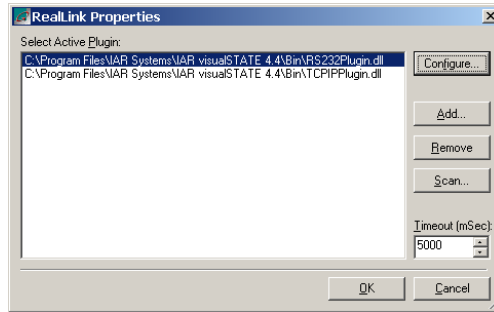
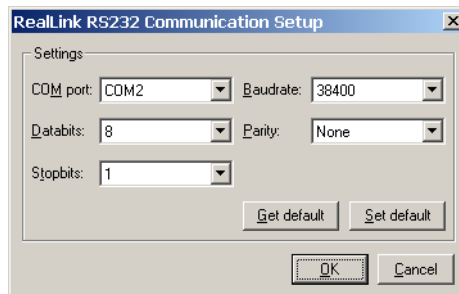

Figure 166: RealLink Properties dialog box
Figure 167: RS232 Setup dialog box
- 2 On the menu, choose RealLink>Properties. A RealLink Properties dialog box will be displayed. See *Figure 166*, page 216.
- 1 Perform the steps described in *Step 6: Configuring the Validator for RealLink*, page 215. When you click the **Configure** button after having selected RS232 communication (see *Figure 166*, page 216), the RS232 Setup dialog box will be displayed. See *Figure 167*, page 217.